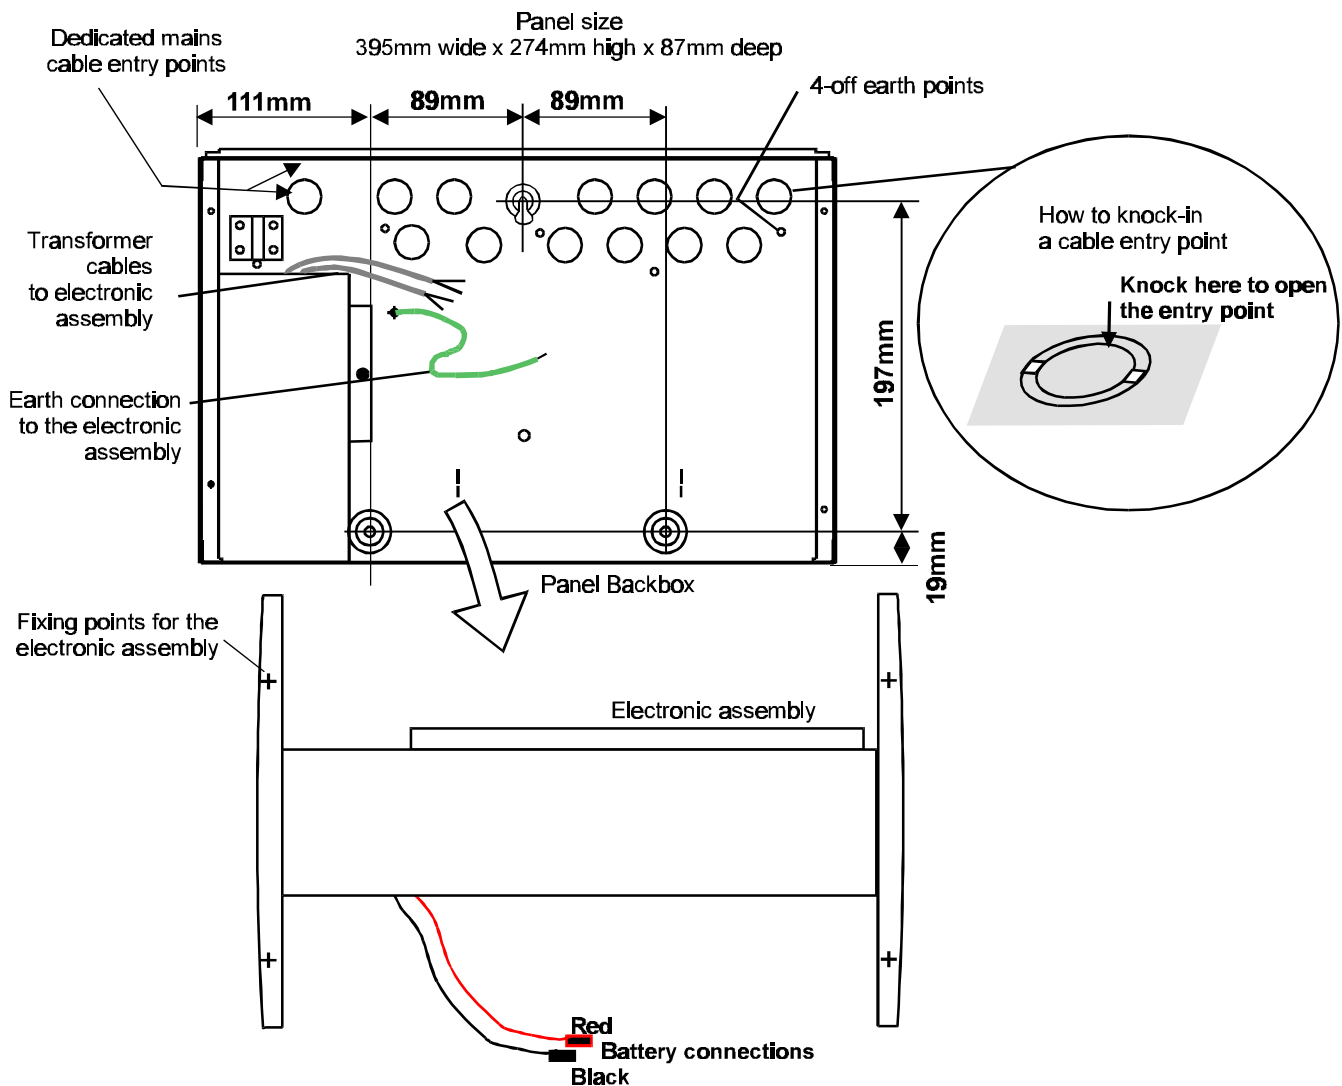

Figure 11 Panel fixings
- Remove the transformer and earth connections from the *electronic assembly*, and then remove the electronic assembly from the panel, see Figure 11. Store the electronic assembly in a safe place until required.
- Hold the panel on the wall in the desired mounting position and mark the positions of the fixing holes. See Figure 11 for case fixing details.
- j) Refit the *electronic assembly* into the panel and connect the transformer and earth cables previously removed, see Figure 11.